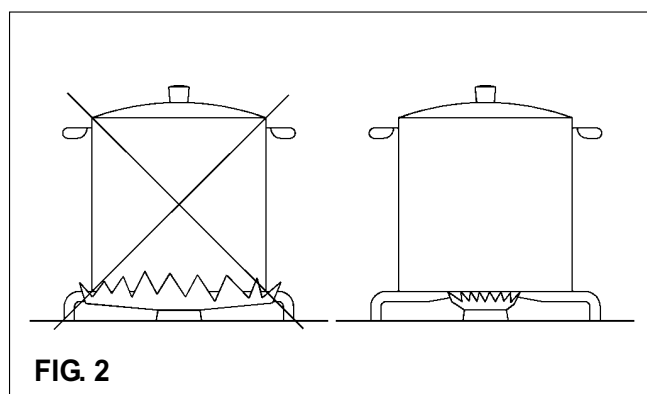

FIG. 2
- Use adequate pans for each burner (consult the following table and fig. 2).